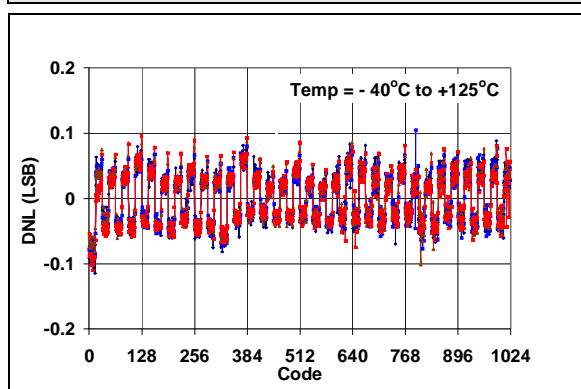

**FIGURE 2-10:** INL vs. Code (MCP4921).
**Note:** Single device graph (Figure 2-10) for illustration of 64 code effect.